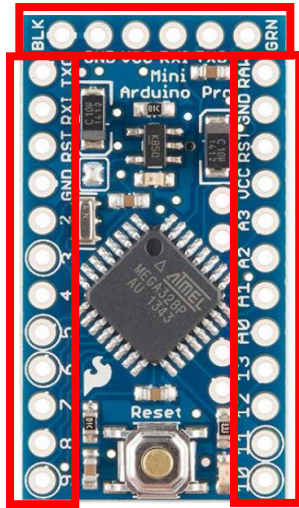

Figure 28a: Arduino ProMini header pin location.
9. Solder the header pins to the Arduino ProMini around the outside: two 12-pin headers, and one 6-pin header (see **Figure 28a** below).